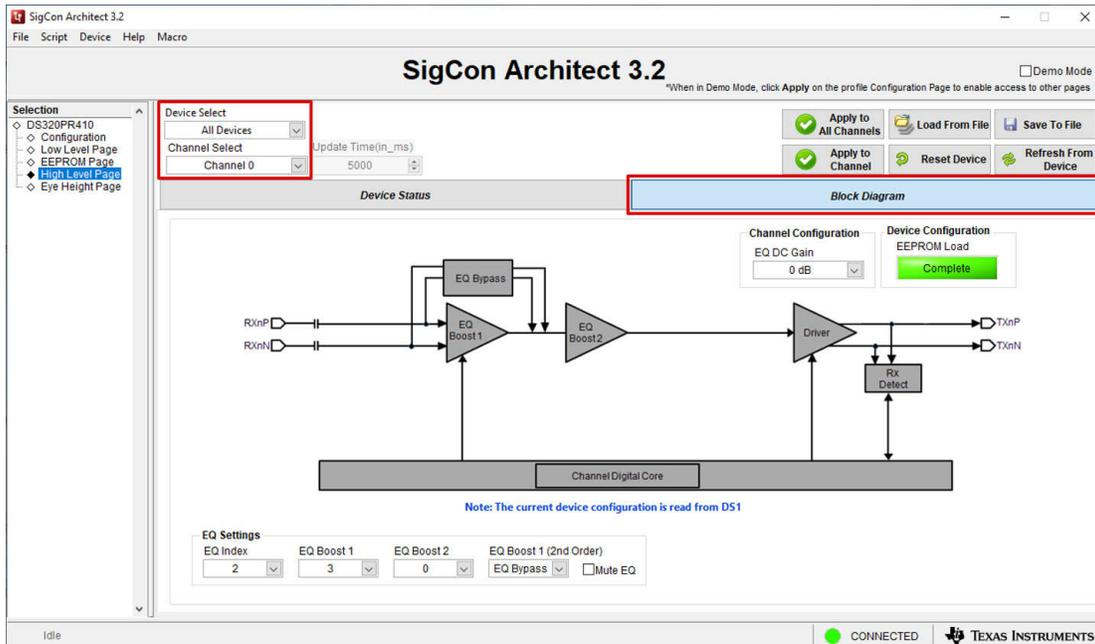

Figure 5-2. High Level Page: Block Diagram Tab, Device and Channel Select
- Click the *Block Diagram* tab to show the screen highlighted in Figure 5-2. Here, the EQ settings (EQ Index, EQ Boosts, EQ DC Gain) for each channel can be adjusted. To program the settings for a specific device or channel, select a device and channel from the respective *Device Select* and *Channel Select* drop-down menus.